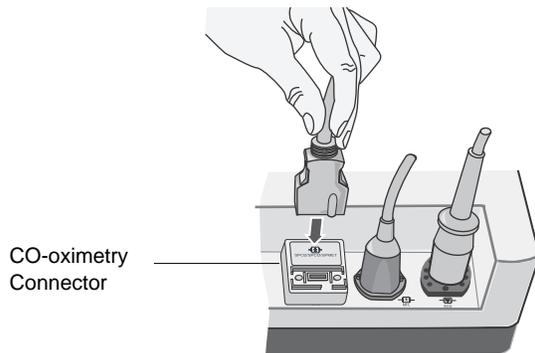

Figure 2
- Connect the patient cable to the CO-oximetry connector at the back of the E Series unit (see Figure 2).
6. Connect the patient cable to the CO-Oximetry connector on the back of the E Series unit as shown in Figure 2 on page 4.
8. Connect the patient cable to the CO-Oximetry connector on the back of the E Series unit as shown in Figure 2 on page 4.